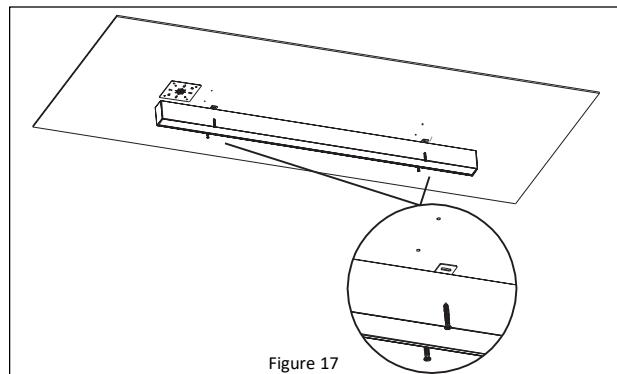

Figure 17
6. Secure the fixture to the mounting surface with long screws. *See Figure 17.*